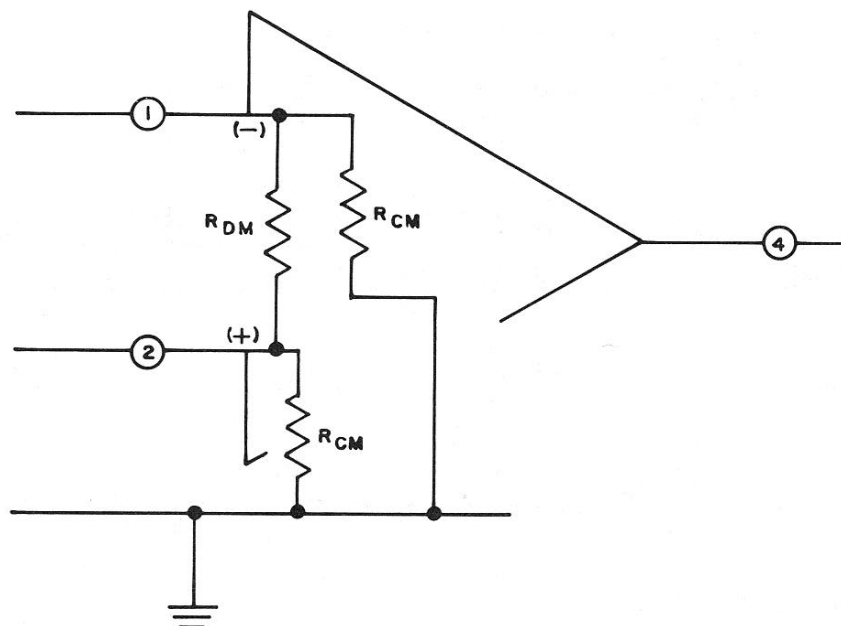

Figure 2-16. Op-amp input impedances.
At this point we must clarify a sometimes confusing definition relating to the input impedance and characteristics of real op-amps: namely, *common mode* versus *differential mode*. The meaning of these terms is illustrated in Figure 2-16. In this diagram there is a resistance R_{DM} between inputs (1) and (2), and a resistance R_{CM} from (1) and (2) to ground. You should note that all these resistors are *inside* the op-amp; you *cannot* change them. The manufacturer will give a *common mode impedance* in the specification sheet. This is the resistance R_{CM} . If we connect input points (1) and (2) together and apply a voltage V , the current to ground will be $I = 2(V/R_{CM})$ because the R_{CM} resistors are in parallel.